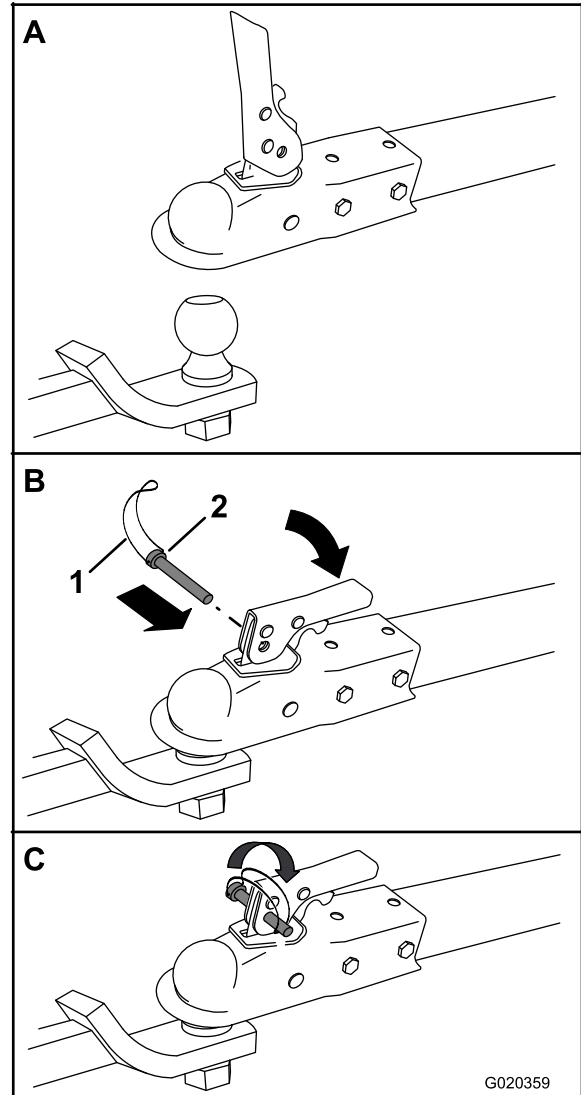

Figure 18
2. Open the coupler latch (Figure 18).
3. Position the coupler on top of the hitch ball (Figure 18).
4. Close the coupler latch (Figure 18).
5. Open the bail on the safety pin and insert the pin through the hole in the latch (Figure 18).
6. Rotate the free end of the bail over the end of the safety pin that is protruding through the latch (Figure 18).